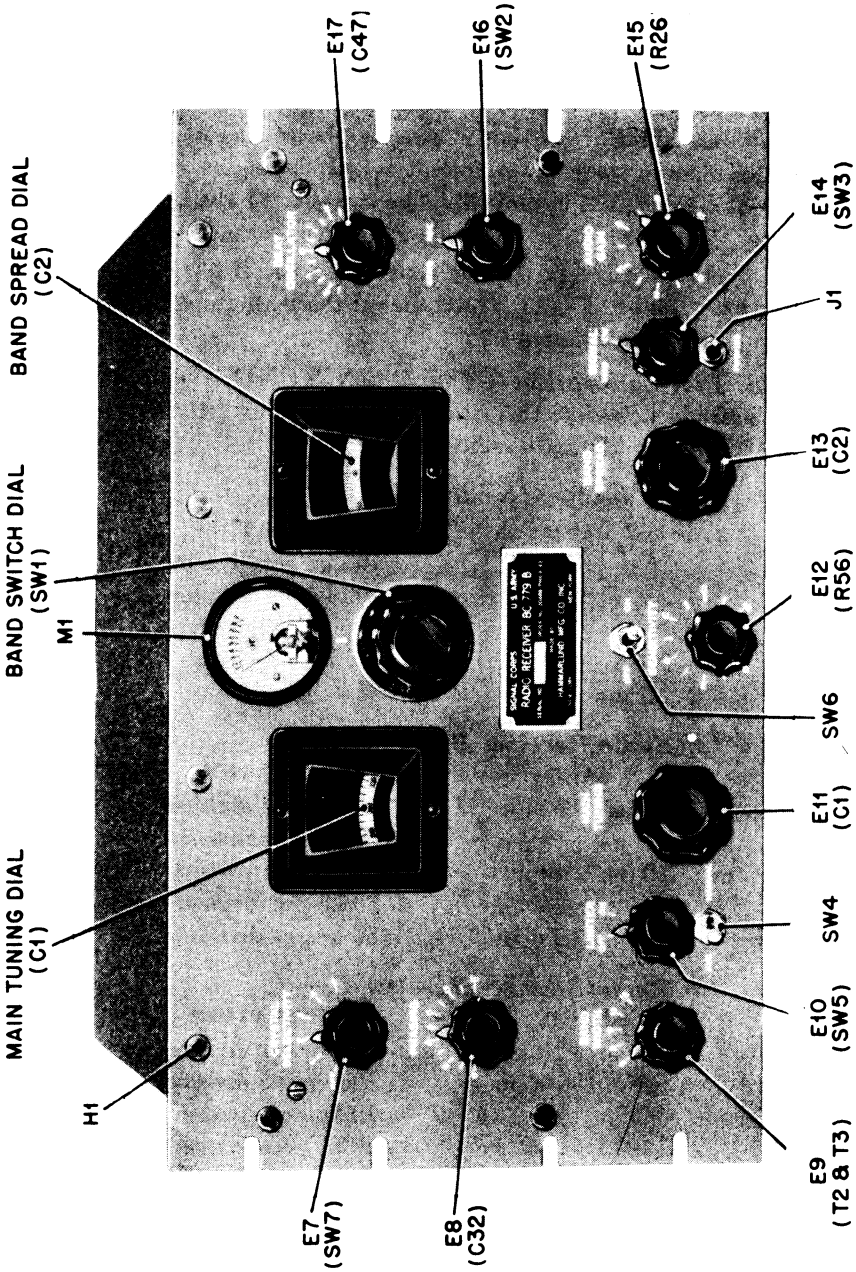

Figure 4. Radio Receiver BC-779-B
4. FREQUENCY BANDS.—The five frequency bands are marked in aluminum on the band-switch dial (FIG. 4). A large number of earlier models of this receiver already in the field can be identified only by the different frequencies shown on this dial. You can get the frequency band you want by turning the knob right or left until the band is on top (just beneath the up-and-down line above the dial).
b. Besides the markings on the band-switch dial (FIG. 4), a mask with windows shows a calibrated scale on the MAIN TUNING dial (FIG. 4) to correspond with the band selected by the band switch. This operation is automatic—when you turn the band switch, the mask on the MAIN TUNING dial turns with it since they are geared together.
c. Band Spread.—A separate BAND SPREAD control (E13) gives you simplified tuning over a narrow range of frequency. The BAND SPREAD dial (FIG. 4) has a scale reading from 0 to 100 through about 170°. If set at 100, the frequency covered by moving the dial will extend from that shown by the setting of the MAIN TUNING dial to some lower frequency, depending on how far the BAND SPREAD dial is moved. The capacity of the band-spread capacitor (C2) increases as the scale approaches zero (0).
(1) To cover a specific range with the BAND SPREAD dial, first set the MAIN TUNING dial at the high-frequency end of the band you want to spread.
d. Earphones.—Plug your Headset HS-30 into the PHONES jack (J1, FIG. 4) in the lower right hand corner of the front panel of the receiver. Or you can connect the headset to the screw terminals marked PHONES on the rear edge of the chassis.
f. Earphone Operation.—For earphone operation, plug your earphones into the PHONES jack (J1, FIG. 4) provided for them on the front panel. Or you can connect the earphones to the PHONES terminals on the rear of the receiver chassis. These terminals are connected in parallel with the jack on the front panel.